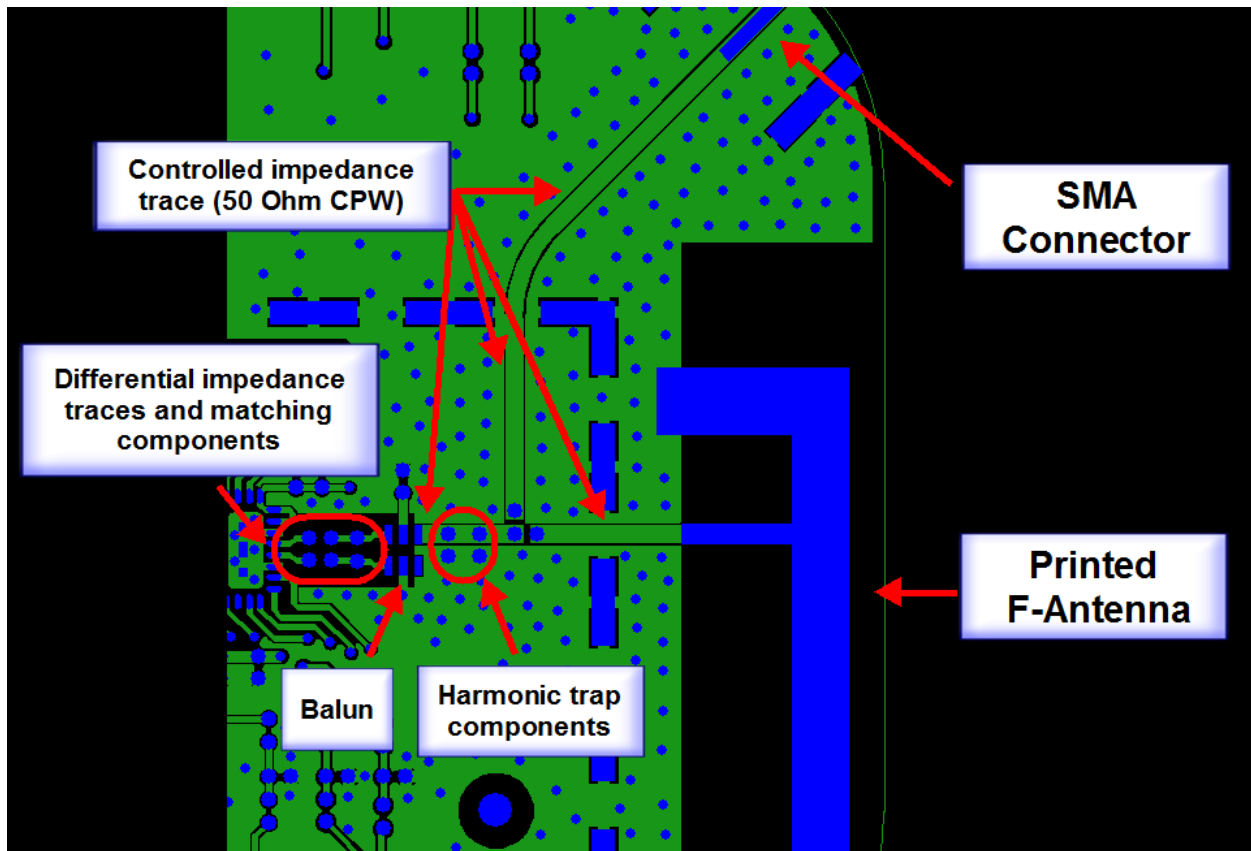

Figure 10. RF matching network
- In Figure 10 the microstrip topology is used. In CPW, the gap to ground is integral to maintain the characteristic impedance.